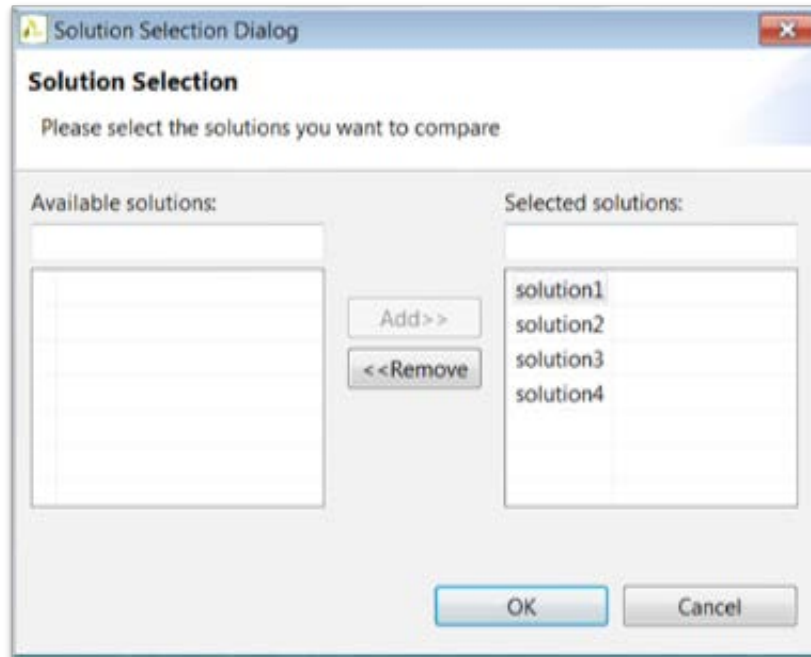

Figure 81: Compare All Solutions for Lab 3
11. In the Solution Selection dialog box, add each of the four solutions to the Selected Solutions pane (Figure 81 81).